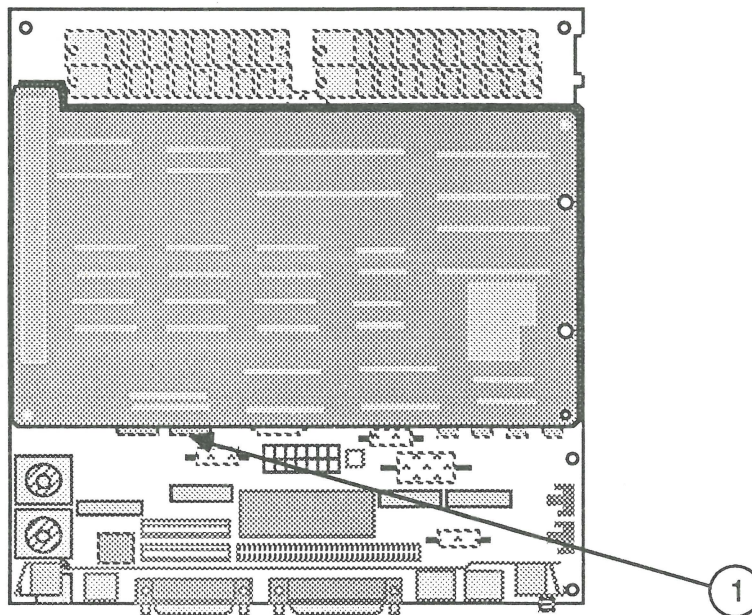

FIGURE 3
- IPL.7 Video Card—Macintosh II Portrait Display (Figure 3)
9. Plug the cable into the 26-pin connector on the card (Figure 3, #1).